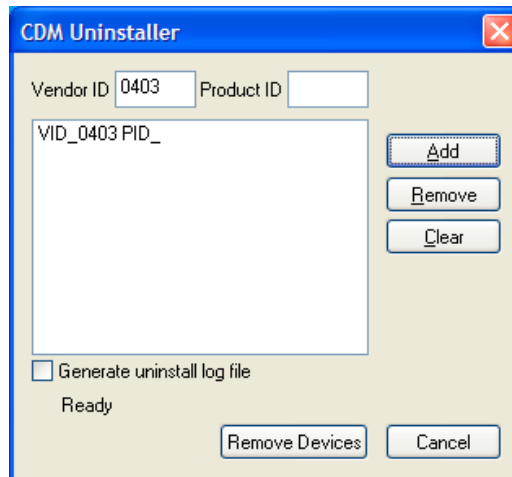

Figure 20 - CDM Uninstaller – Adding to list
- f. Then click the 'Add' button and the window will look like the one shown in Figure 20.